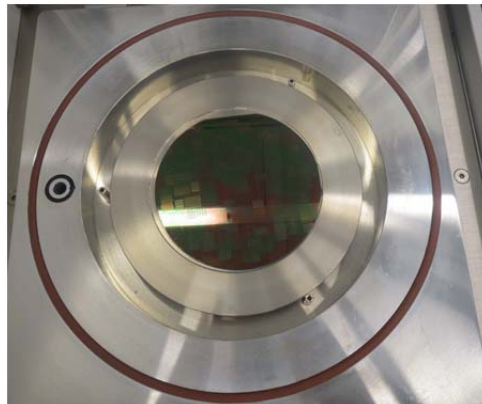

Figure 7: Top view of the chamber with a 4" wafer loaded in the wafer tray.
- 5) Load you wafer/sample into the wafer tray, as shown in Figure 7. If small chips are to be processed, put all the chips inside the tray.